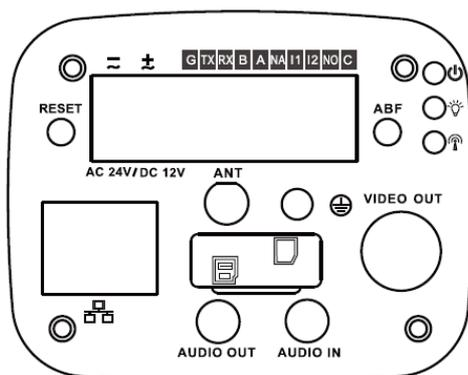
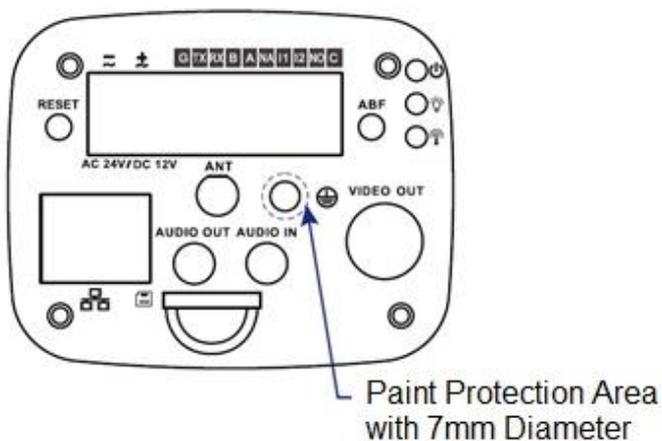

Figure 1-1
Figure 1-2
- Different devices may have different structures of rear panel, please refer to the actual product for more details. See Figure 1-1 and Figure 1-2.